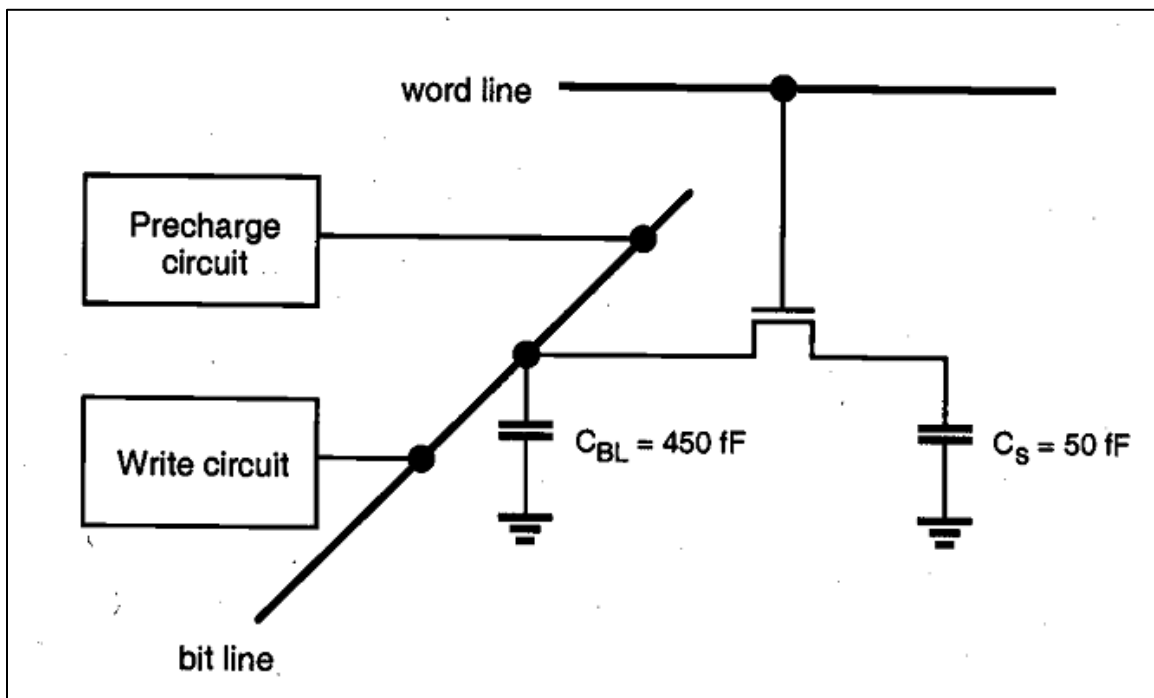

Figure 3
2) A single-transistor DRAM cell is represented by the following circuit diagram (Figure 3). The bit line can be pre-charged to  $V_{DD}$  by using a clocked pre-charge circuit. Also, the WRITE circuit is assumed here to bring the potential of the bit line to  $V_{DD}$  or 0 V during the WRITE operation with word line at  $V_{DD}$ . Using the parameters given: